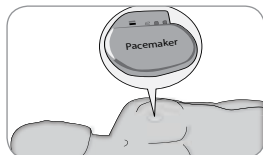

Fig. 35 - Keep away
- **ALWAYS** keep magnets **AT LEAST 1½" (4 cm)** from these devices and implant sites (Fig. 35).